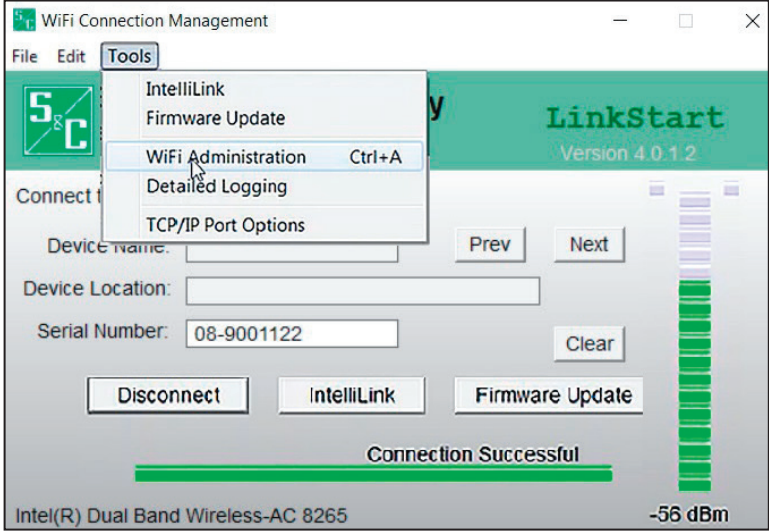

Figure 4. The Wi-Fi Administration entry on the Tools menu.
STEP 4. Open the **Tools** menu and click on the **Wi-Fi Administration** option. See Figure 4. The *Login* screen will open. See Figure 5 on page 8.